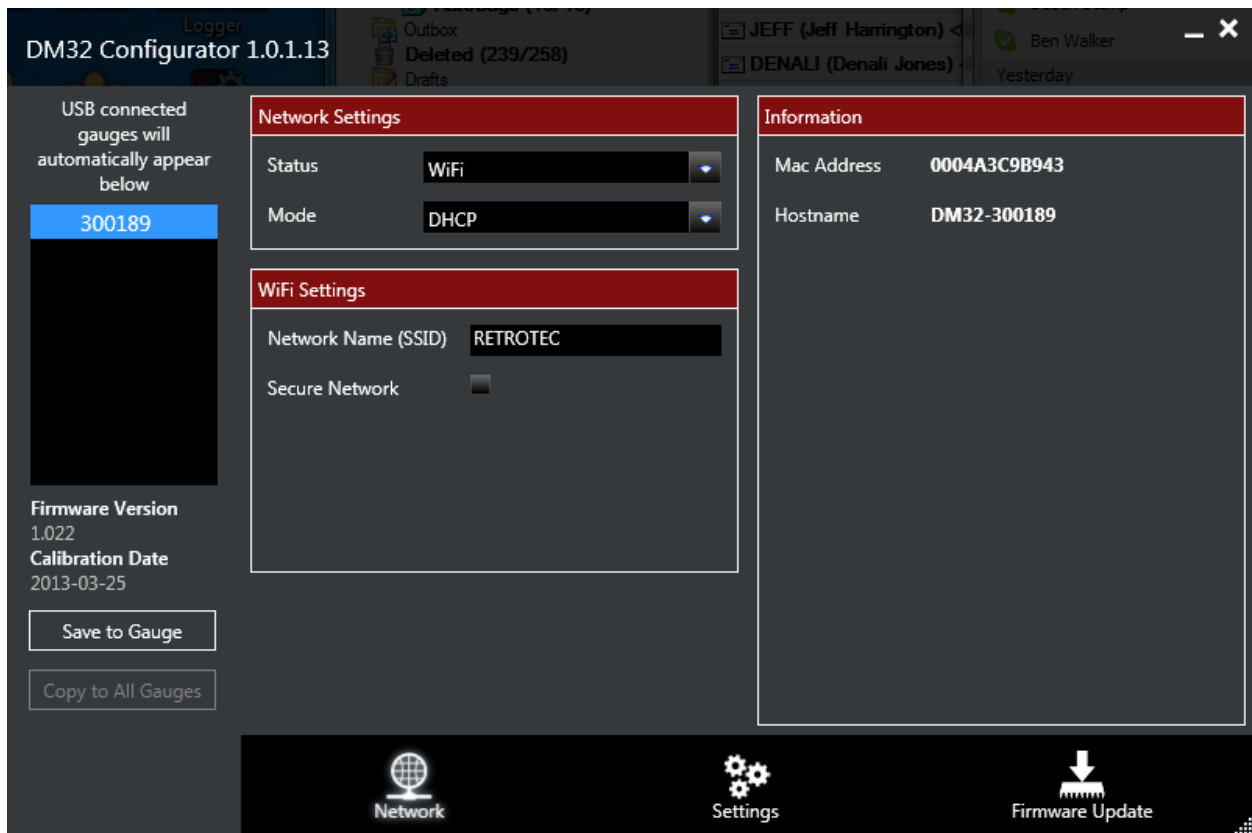

Figure 18: Non-secure WiFi needs DHCP and Network name entered
6. Select "WiFi" from the dropdown called "Status" and the Configurator will look like Figure 18.